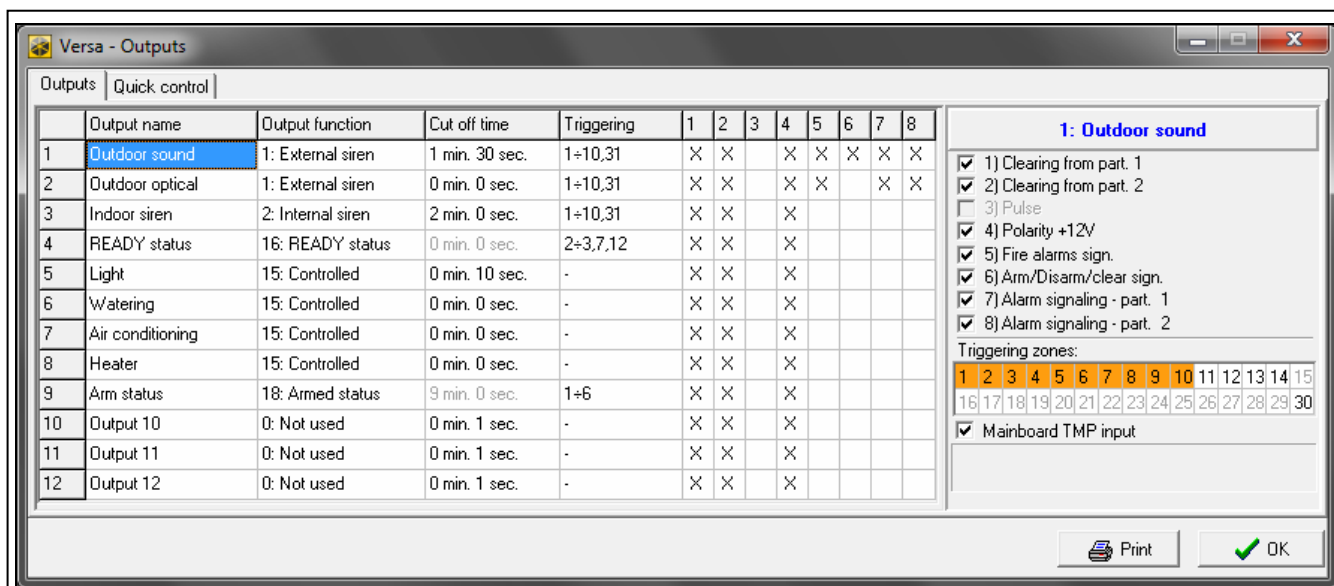

Fig. 10. DLOADX program: "Versa – Outputs" window.
- DLOADX program: “Versa – Outputs” window (Fig. 10).